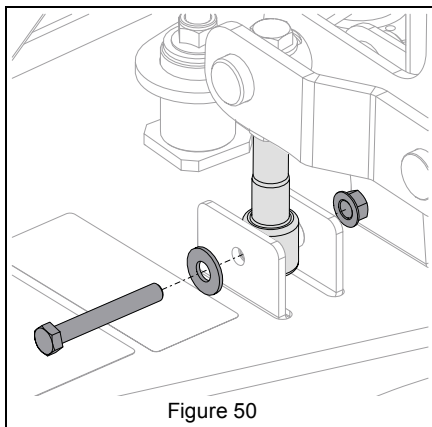

Figure 50
7. Remove hardware retaining deck lift links to deck lift brackets. See Figure 50.